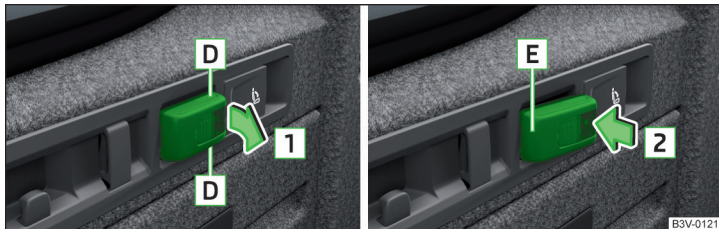

Fig. 144 Removable light: removing / Inserting
» Grasp the lamp **D** and swivel in the direction of the arrow **1** » Fig. 144.
- » First insert the rear part of the lamp with the part **E** » Fig. 144 into the mount and then to press in the direction of the arrow **2**, until it audibly clicks into place.